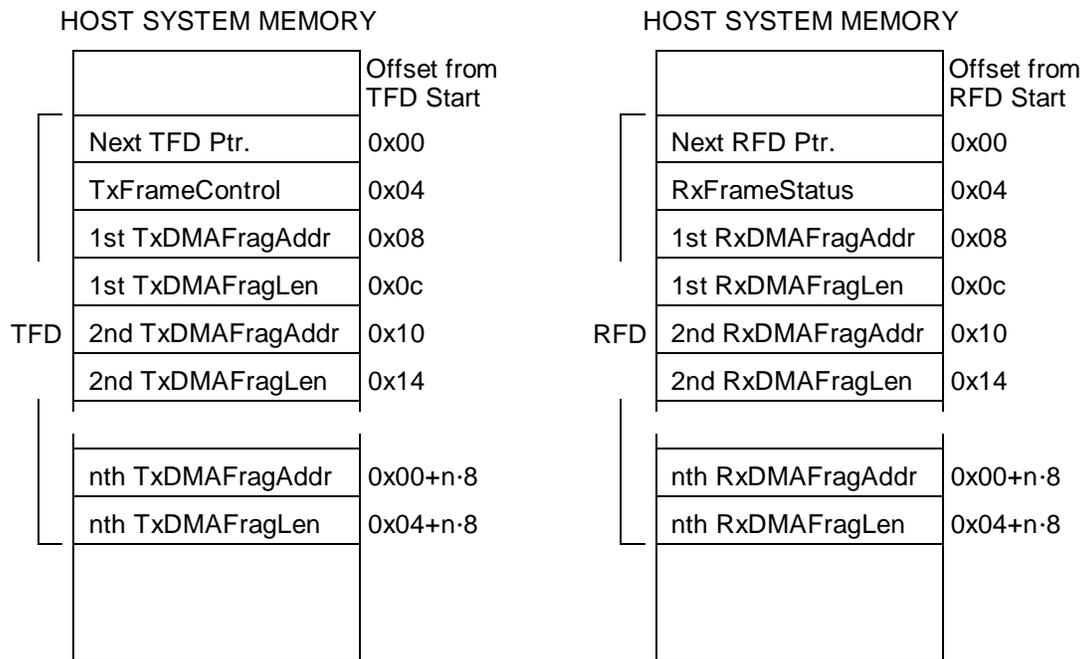

FIGURE 9: TFD and RFD DMA Data Structures
- Figure 9 shows the two DMA data structures.